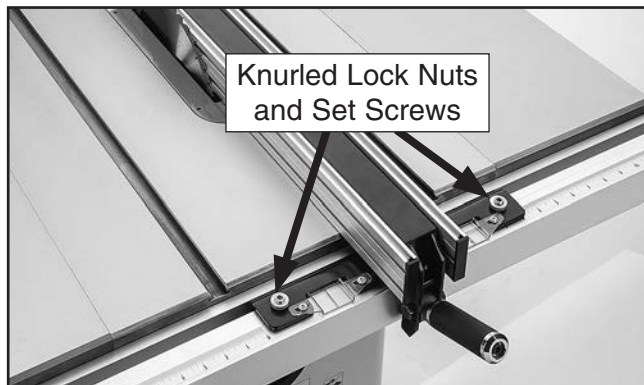

Figure 118. Location of lock nuts and set screws for adjusting fence squareness and height.
The fence face must be square to the table in order to produce accurate cuts. The fence is adjustable with two set screws where the fence slot sits in the front rail (see **Figure 118**).
3. Loosen knurled lock nuts and adjust set screws (**Figure 118**) on top of fence bracket to ensure fence face is 90° to table. Tighten lock nuts when fence is square to table.